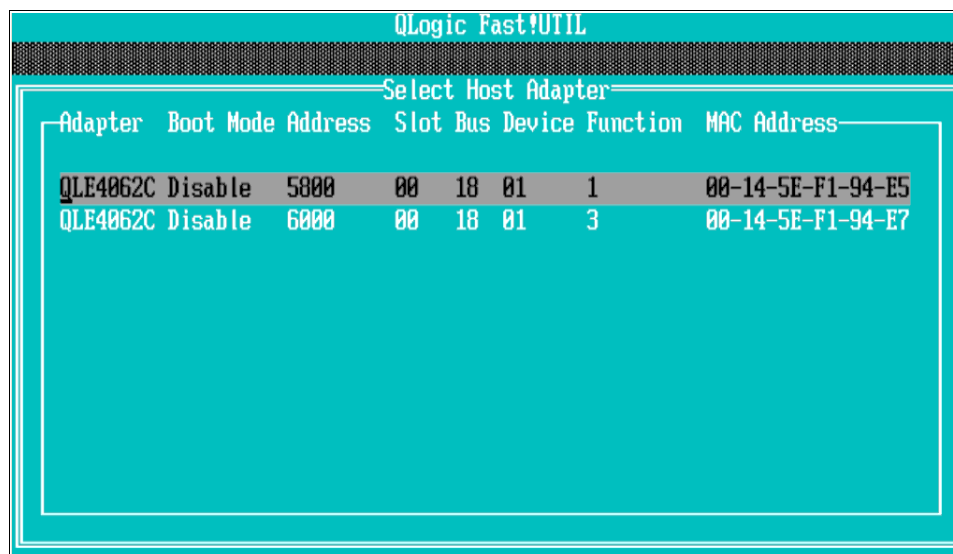

Figure 5-19 QLogic Fast!UTIL menu window
- After pressing the Ctrl+Q keys, you enter the QLogic iSCSI Card BIOS utility. You see a window similar to Figure 5-19.